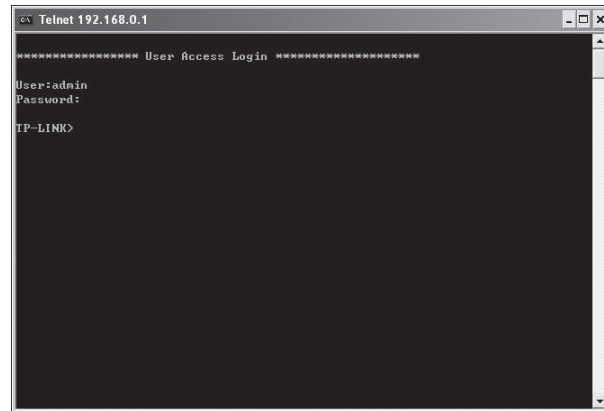

Figure 5-12 Log in the Switch
5. Type the User name and Password (the factory default value for both of them is admin) and press the Enter button, then you can use the CLI now, which is shown as Figure 5-12.